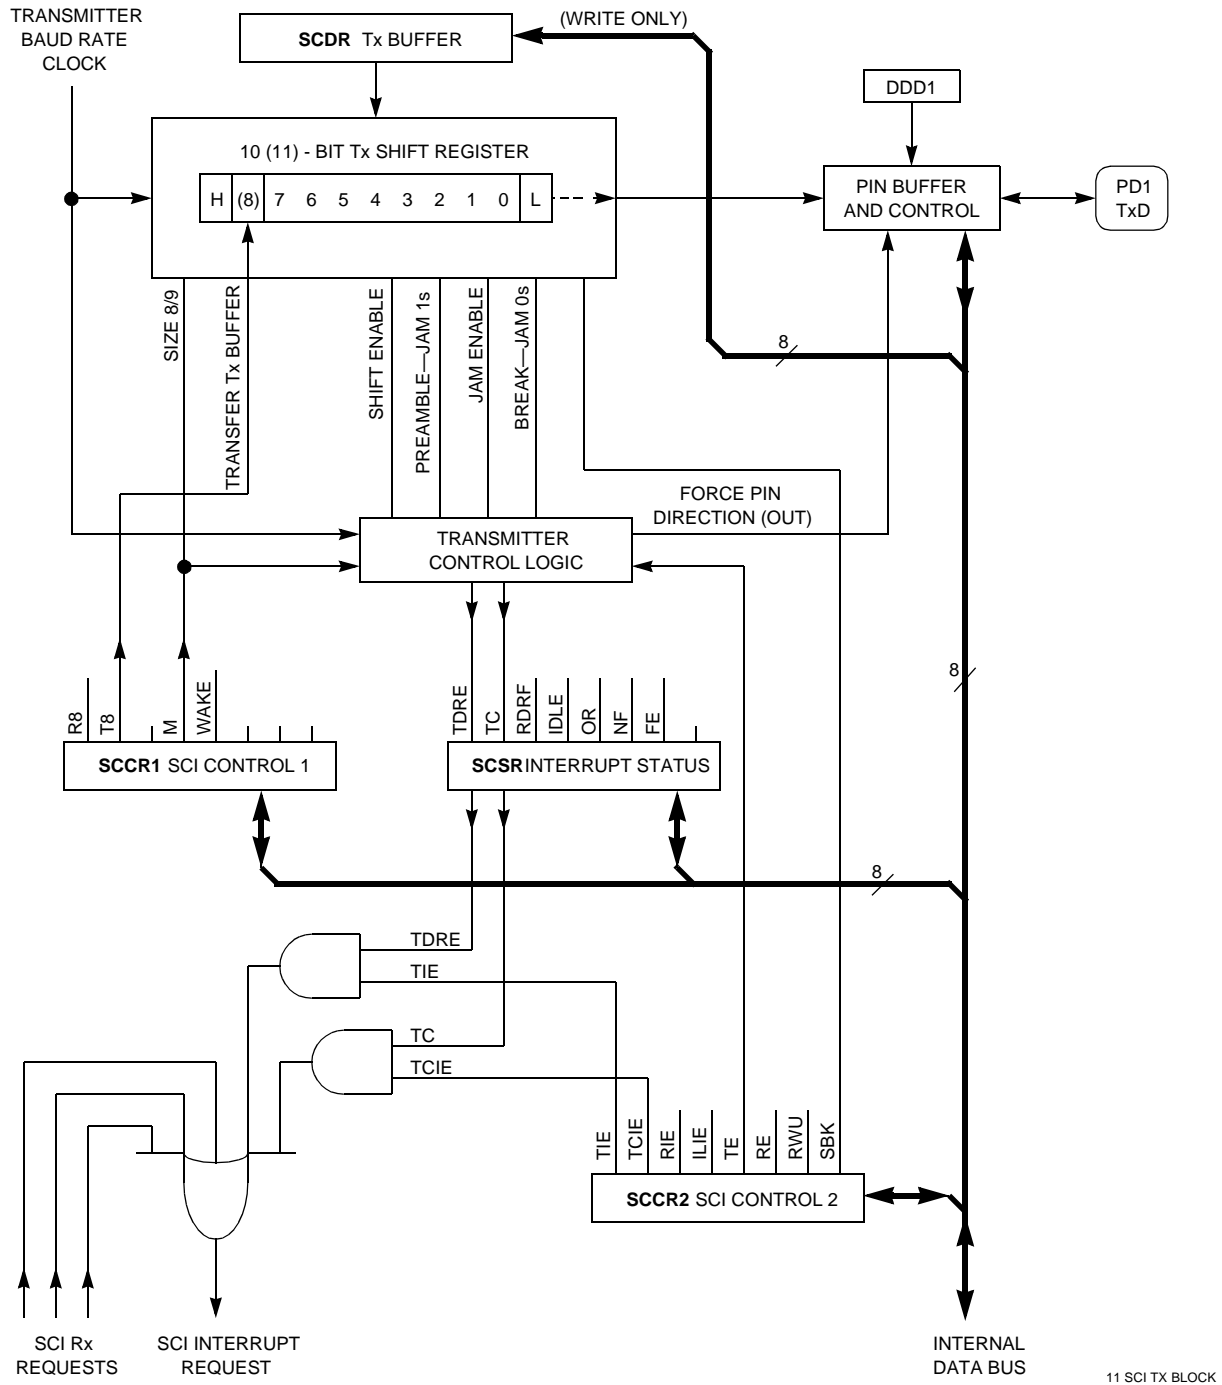

Figure 7-1 SCI Transmitter Block Diagram
The SCI transmitter includes a parallel transmit data register (SCDR) and a serial shift register. The contents of the serial shift register can only be written through the SCDR. This double buffered operation allows a character to be shifted out serially while another character is waiting in the SCDR to be transferred into the serial shift register. The output of the serial shift register is applied to TxD as long as transmission is in progress or the transmit enable (TE) bit of serial communication control register 2 (SCCR2) is set. The block diagram, **Figure 7-1**, shows the transmit serial shift register, and the buffer logic at the top of the figure.